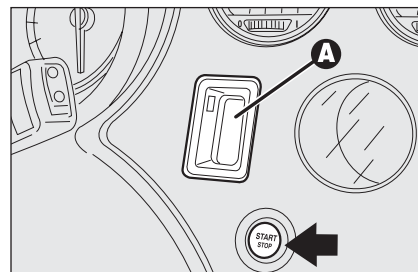

fig. 13
- ☐ electronic key reading device **A-fig. 13** (set near the steering wheel);